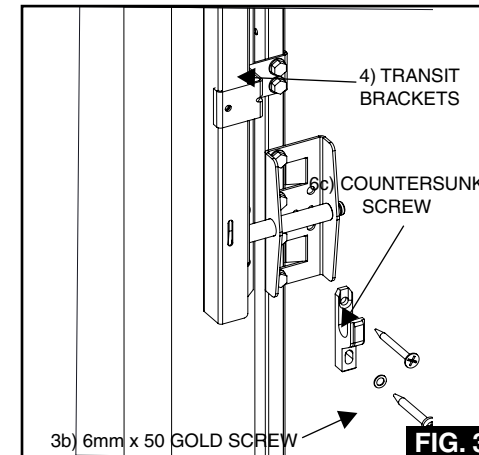

FIG. 3
- 3b. At **bottom** of each Track fix Diecast Security Block around Spindle (See Fig 3). Slide block up behind the wheel spindle ensuring the block does not foul the nylon wheel, use a **gold** coloured screw and M6 washer into **slotted** hole in block.
4. Remove the Track Transit Brackets from both sides (See Fig 3) and allow door to fully enter aperture.
- 6c. Once final adjustments have been made, insert and fully tighten a No.10 x 1 1/2" countersunk posi screw into hole of Security Block (See Fig 3).